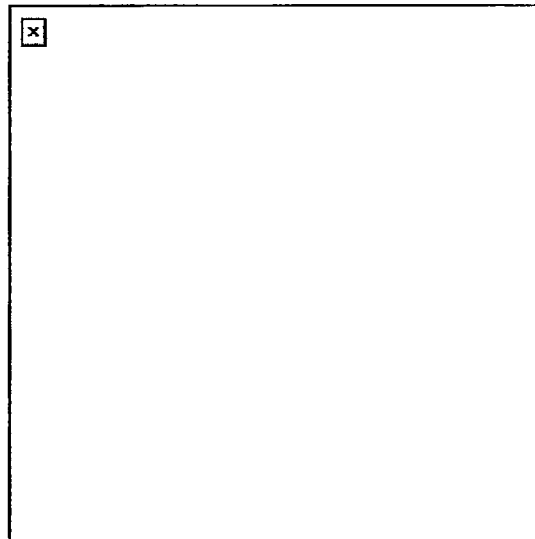

Figure 191-381-1340-1
**Prepare a Department of Defense (DD) Form 2714**
2. Complete the form (Figures 191-381-1340-1 and 191-381-1340-2) , as applicable. Complete—